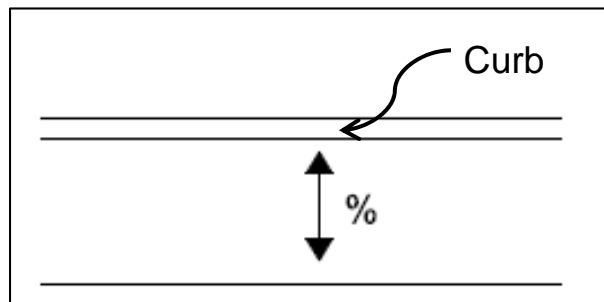

Figure 21 - Accessible Route Cross Slope
- Cross slopes do no exceed 2% (see **Figure 21**)